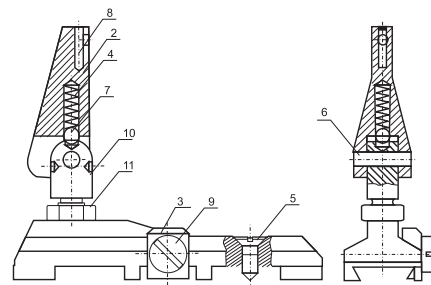

Fig. 12 - Mechanical sights - front
13. Sights (front and rear), (fig. 12 and 12A) are folding, enabling firing at distances up to 400 meters (1/4 mile). Sight bases have dove tail shaped guides, which are connected with the appropriate dove tail shaped lugs on the barrel and they are secured from moving with a screw (item 5).